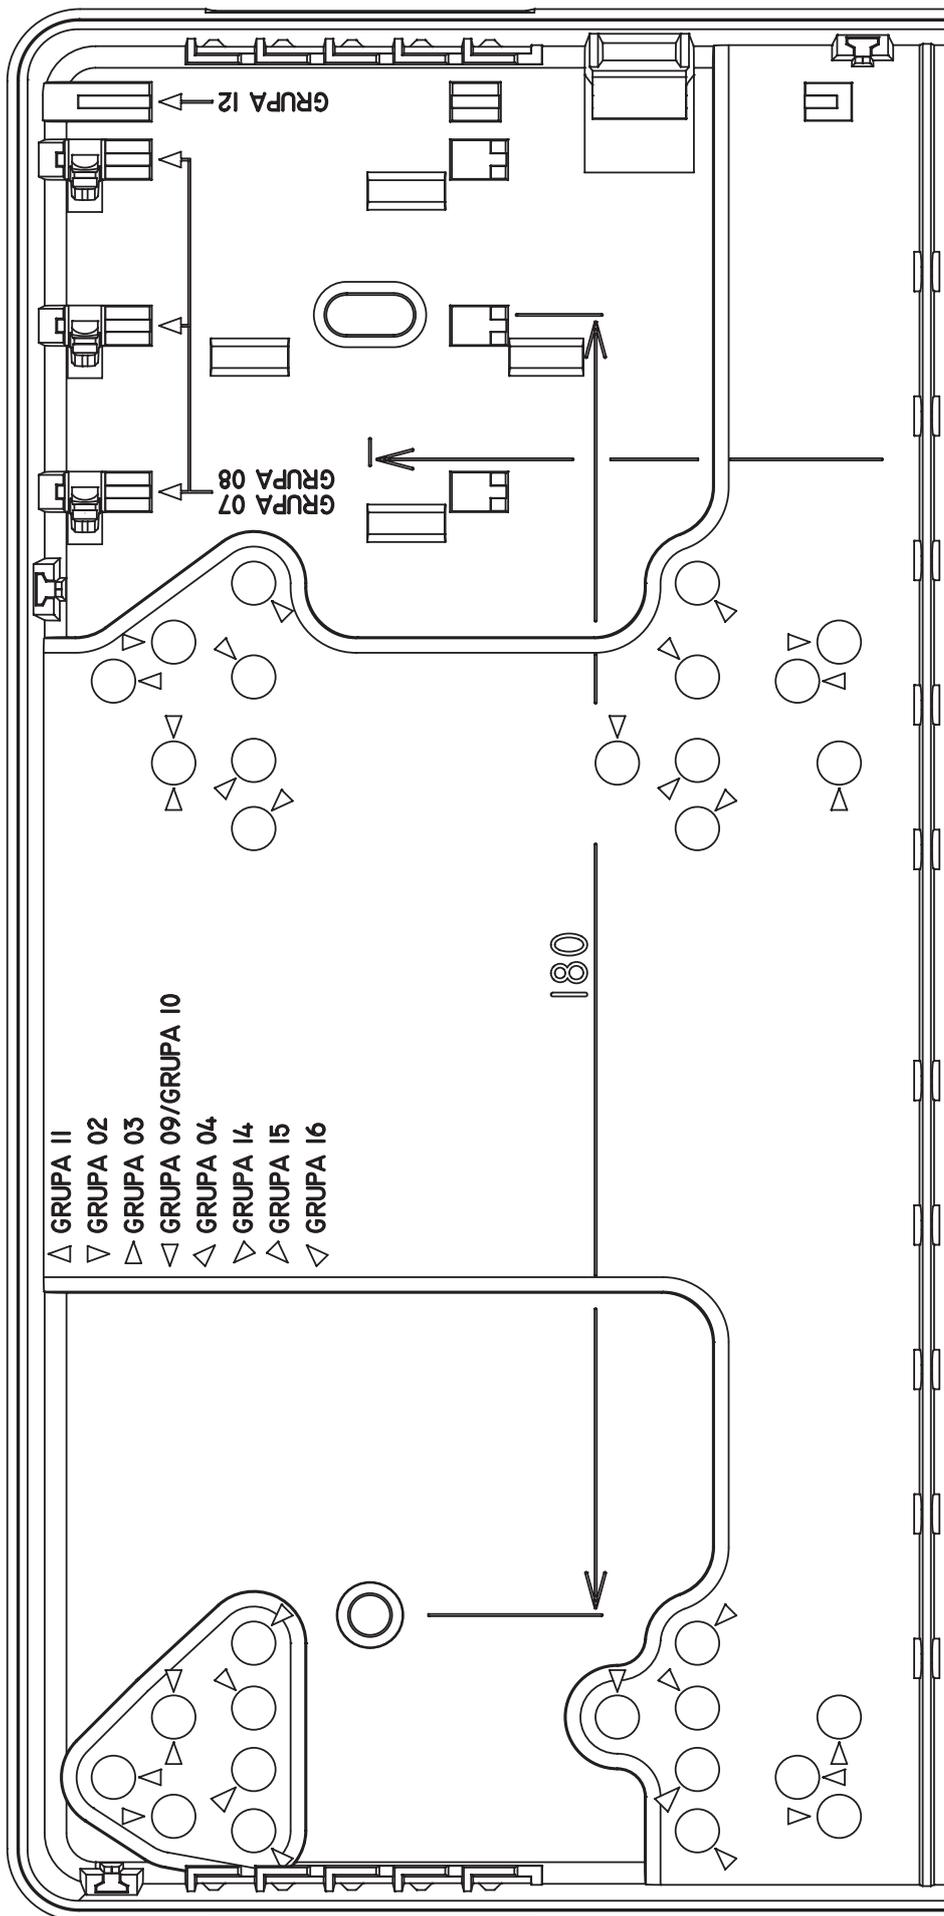

Figure 1. Partial view of the housing with the module mounting place (GRUPA=GROUP).
Table 1. List of devices that can be mounted in the OPU-4 P and OPU-4 PW housings (see also Fig. 1).
1. Insert the plastic plugs for PCB fastening into appropriate holes in the housing base (the marks make it easier to select the suitable holes – see Figure 1 and Table 1).